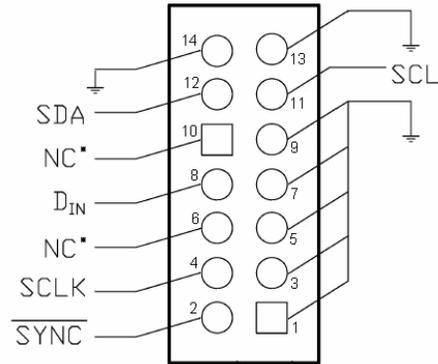

Figure 3: J4 (WV4) Serial Interface Header
6. Connect your Logic Generator to the Serial Interface header J4 (not currently populated). Refer to *Figure 3* below for connection details.